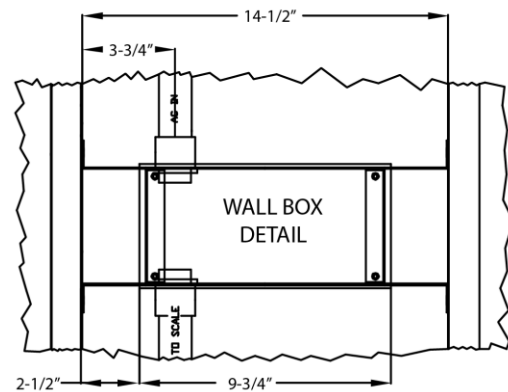

Figure 1: Wall Box Assembly/Conduit Placement
STEP 3: (Figure 1) Mount Wall Box Display into wall and run the conduit, with connector cable inside, down through wall and into pit as shown.